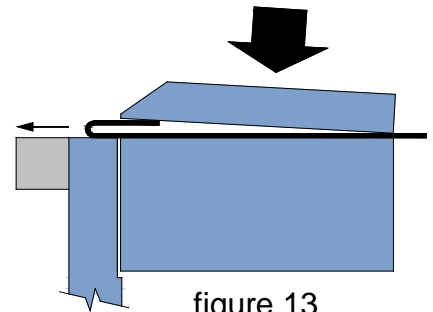

figure 13
- 4) To further flatten the material, slide the piece part forward about 1/2" and use the bar to magnetically clamp it as shown in (fig. 13)